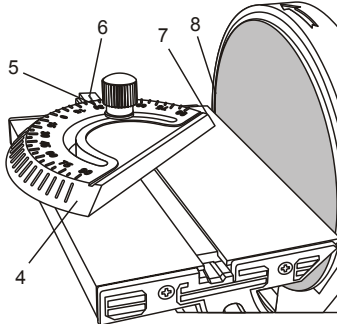

Fig. 9
3. Rotate the miter gauge (4) and align the desired angle (5) with the indexing mark (6) (Fig. 9).
4. Slide the miter gauge assembly in the table slot so the edge of the miter gauge closest to the sanding disc (7) is approximately 1/4" (6.4 mm) inside the outer edge of the sanding disc (8).